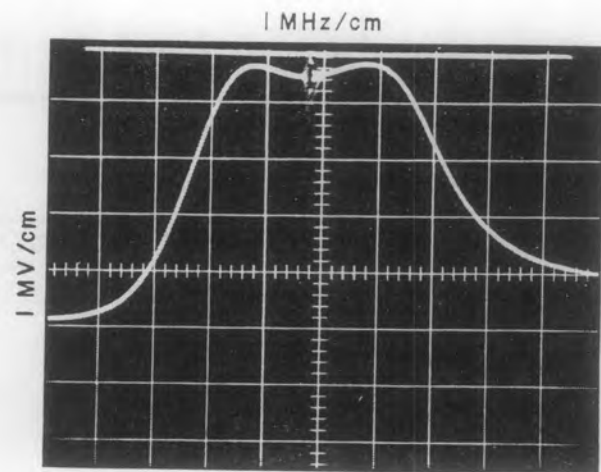

Figure 4-15. Typical VSWR Response, Preselector Network at 90 MHz
- (4) Tune the sweep generator and tuner to 90 MHz. Adjust A1L3 and A1L4 (by spreading or compressing the turns as required) for a response centered around the marker. The marker should not fall below the X-axis. Figure 4-15 shows a typical vswr response.
- (5) Repeat the alignment procedure at 26 and 90 MHz until interaction between the adjustments is minimized. Then slowly tune the sweep generator and tuner across the tuning range, observing the position of the marker on the response curve. The marker should not fall below the X-axis (indicating a vswr above 4:1) at any frequency in the tuning range.